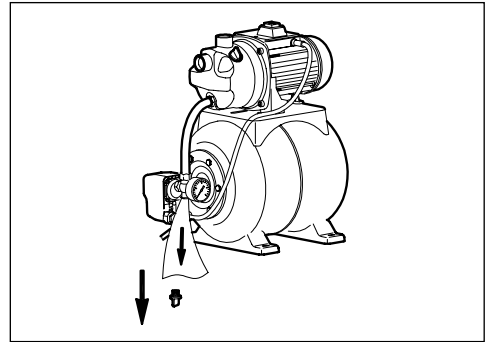

Fig. 11
### 8.1 General Maintenance and Storage (Fig.11)
- If storing the pump for prolonged periods, disconnect the hoses and drain the water from the pump by opening the pressure hose (Fig.11).